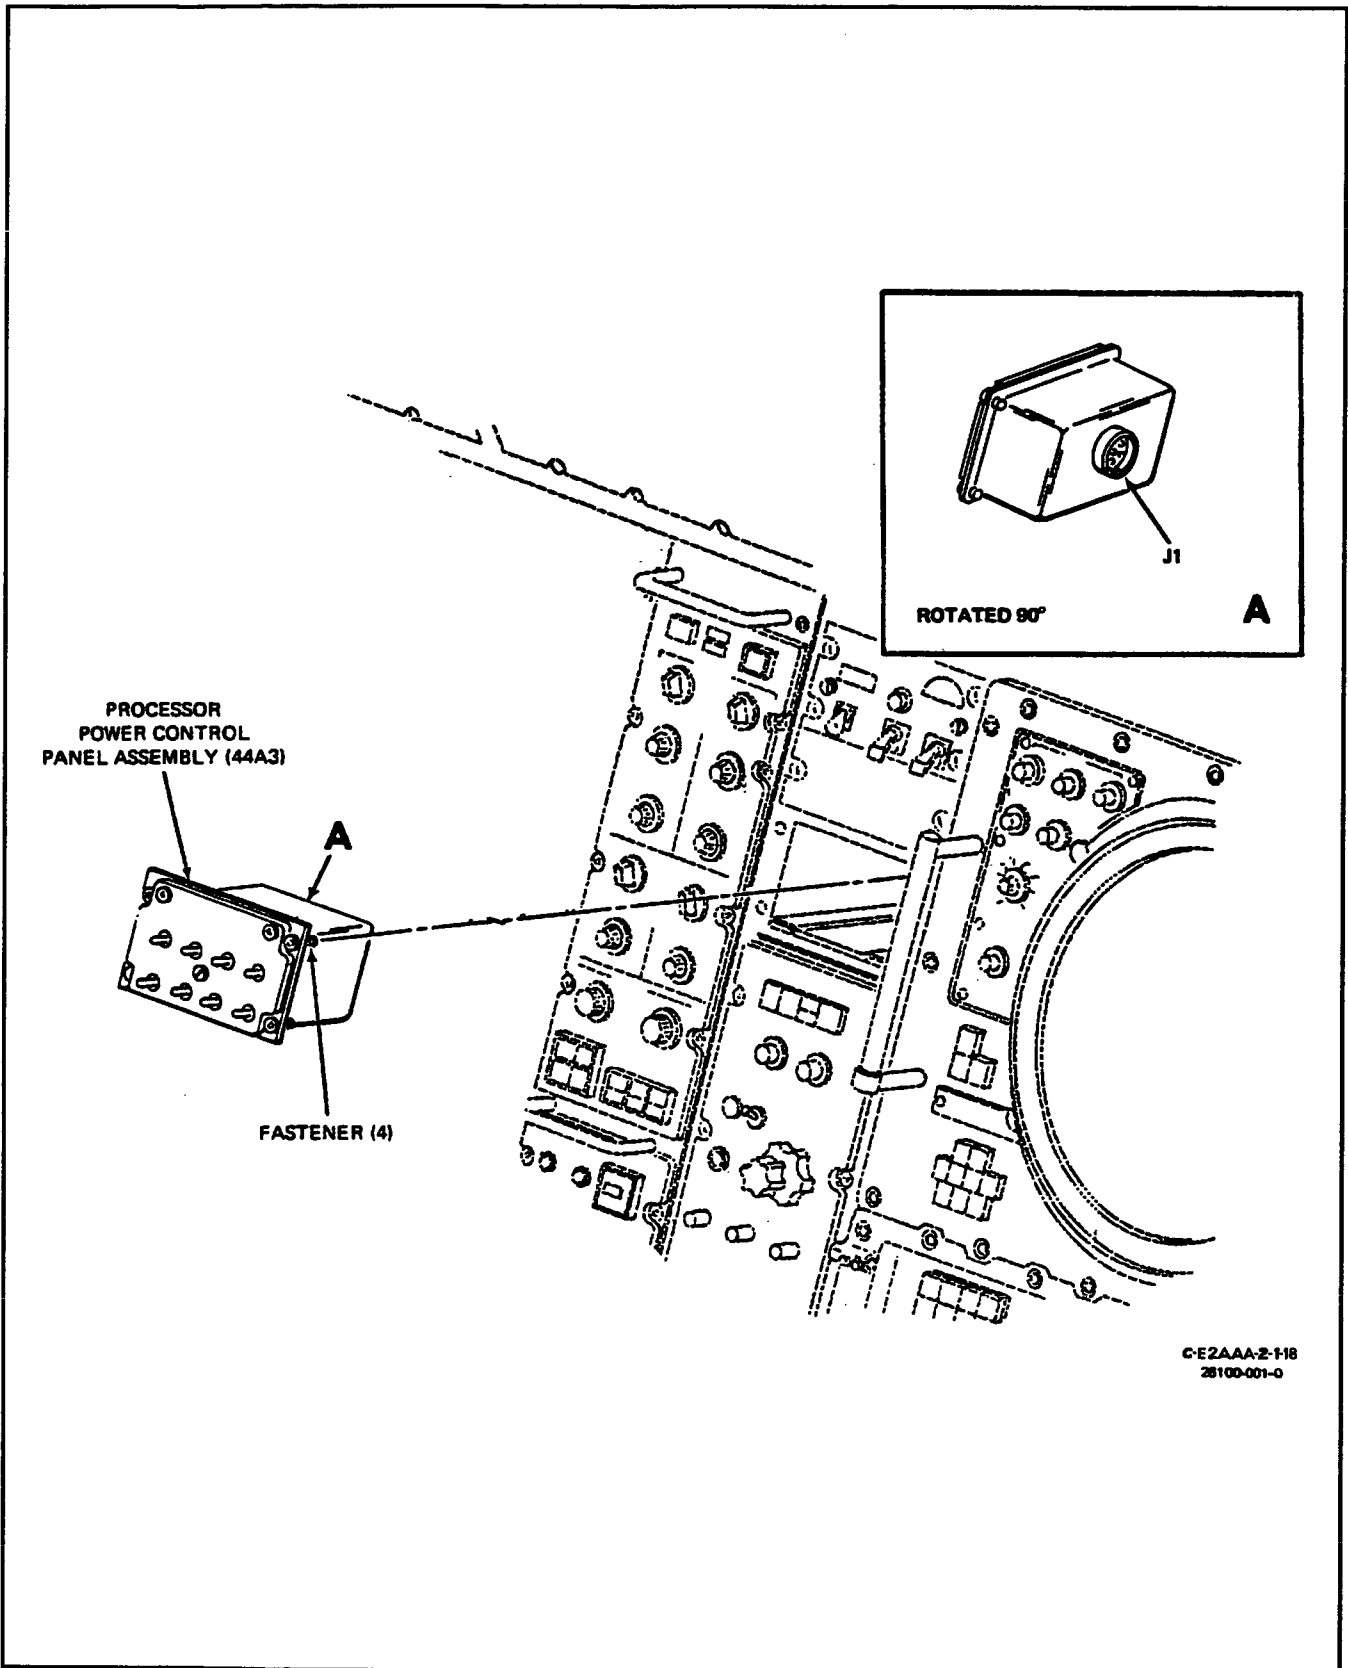

Figure 1. Removal and Installation of Processor Power Control Panel Assembly
**3. REMOVAL.** (See figure 1.)
**4. INSTALLATION.** (See figure 1.)